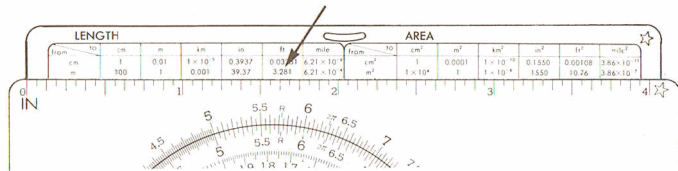

Figure 1
**Example:** Convert 3 meters into feet (Figure 1)